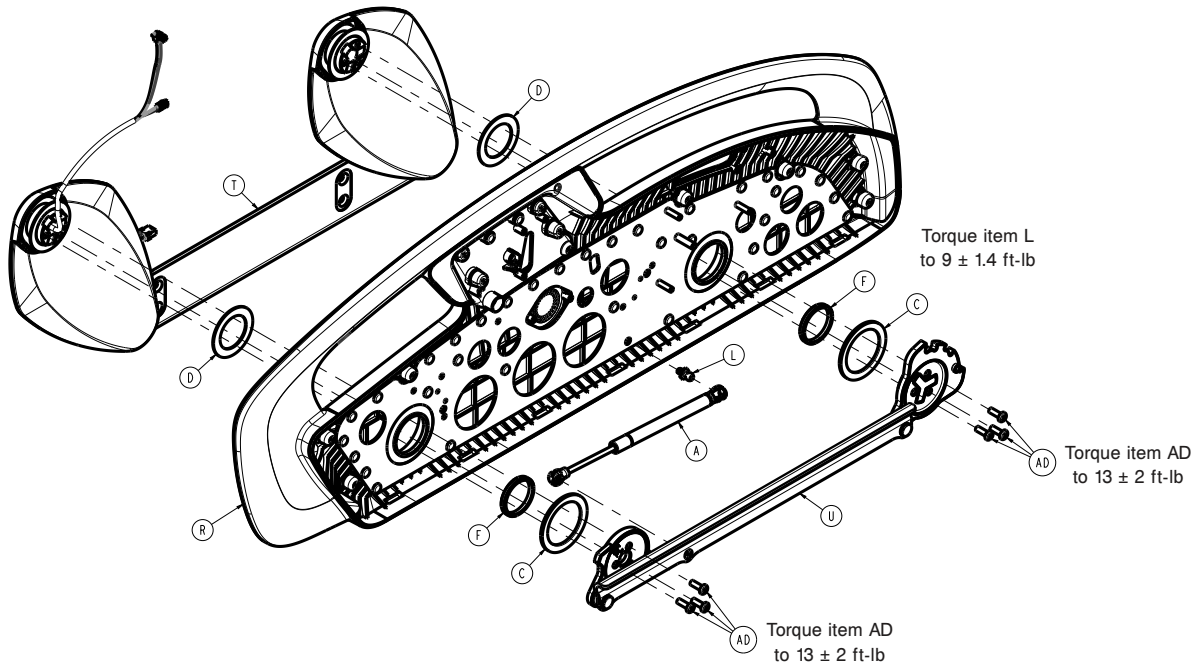

Figure 40 – Replacing the siderail hoop
22. Using a ratchet and a T30 Torx driver, remove the six screws (AD) that secure the timing link cams to the siderail arms (Figure 40).
23. Using a slotted screwdriver, unclip the gas cylinder (A) from the timing link assembly (U) and the siderail hoop frame (R) to remove the gas cylinder (Figure 40).
14. Using a ratchet and a T30 Torx driver, remove the six screws (AD) that secure the timing link cams to the siderail arms (Figure 40).
15. Using a slotted screwdriver, unclip the gas cylinder (A) from the timing link assembly (U) and the siderail hoop frame (R) to remove the gas cylinder (Figure 40).
16. Remove the timing link assembly (U).